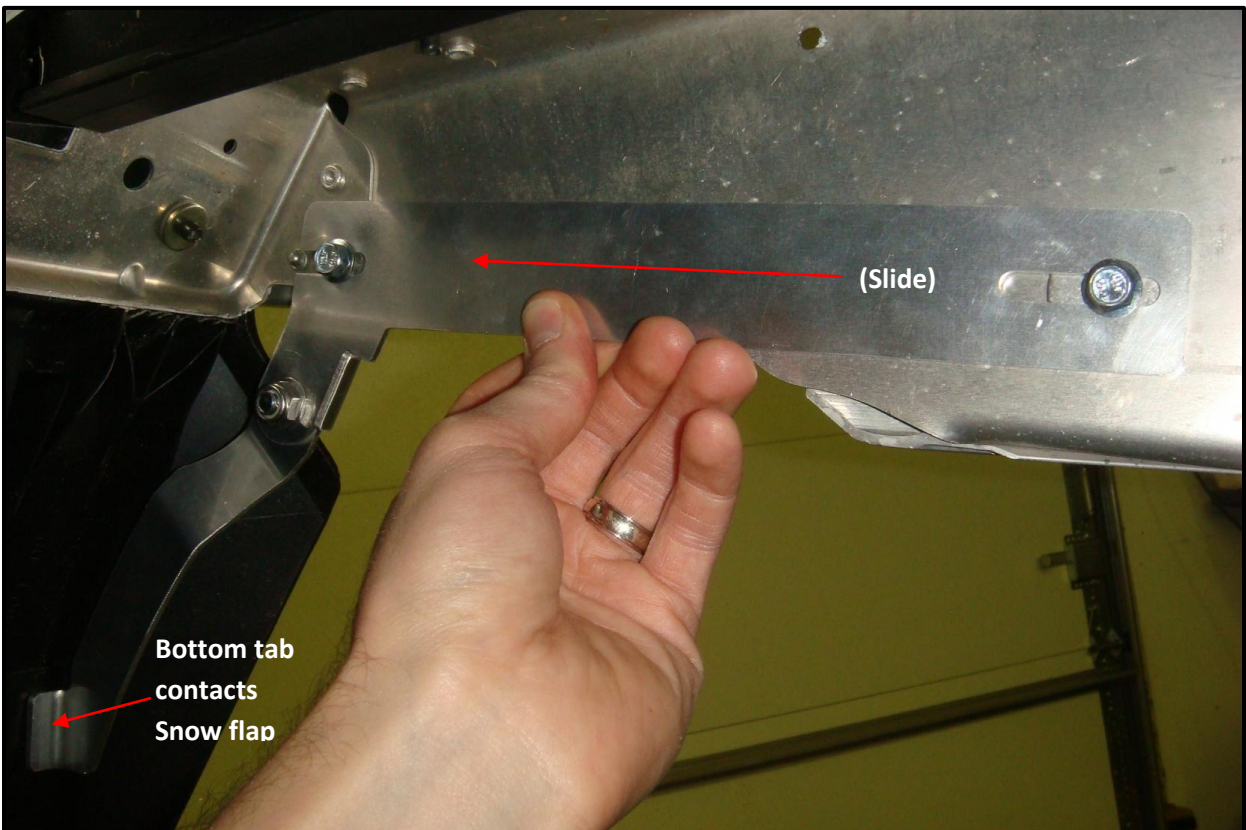

Figure 7 –Slide Snow Flap Saver Rearward until the pivoting arm (1) begins to makes contact with the snow flap.
8. With the two mounting bolts (4) still loose, slide the mounting base (3) rearward until the bottom tab on the LH pivoting arm (1) just makes contact with the snow flap (Figure 7).